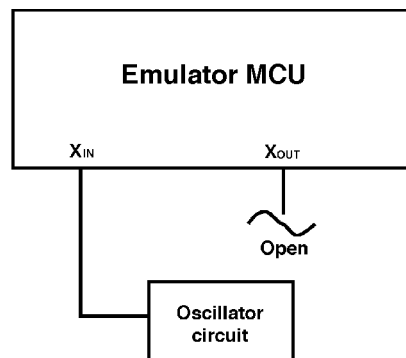

Figure 3.1 External oscillator circuit
- To operate the emulation pod with an external clock, construct the oscillator circuit as shown in Figure 3.1 in the target system and input the oscillator output at 50% duty (within the operating range of the emulator MCU) into the X_{IN} pin. And the X_{OUT} pin should be open (same for X_{CIN}).